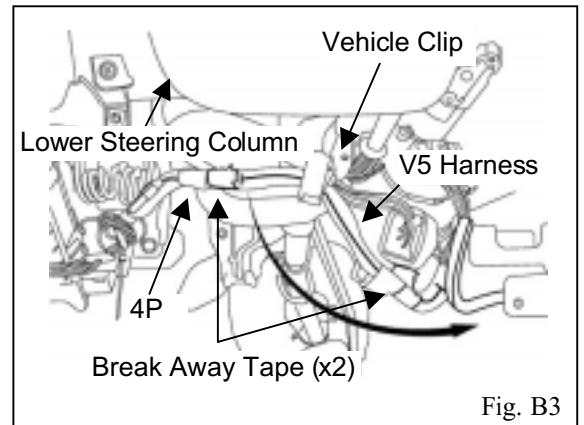

Fig. B3
3. Remove the two strips of break-away tape securing the 4P connector branch to the V5 harness. Separate the 4P connector from the V5 harness. (Fig. B3)